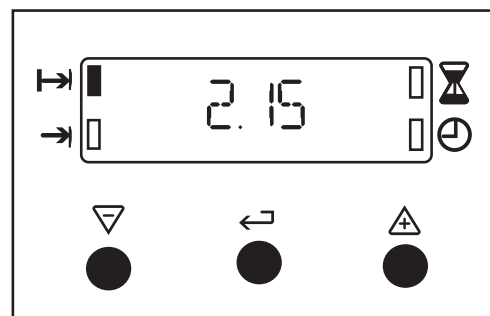

Fig.7.
- iii) To set the length of cooking time. Press the Selector Control button until the 'Cook Time' indicator neon is illuminated. Press the increase control (+) until the required length of cooking time is displayed, e.g. 2 hrs 15 mins as Fig. 7. If necessary depress the decrease control (-) until the correct time interval is achieved.